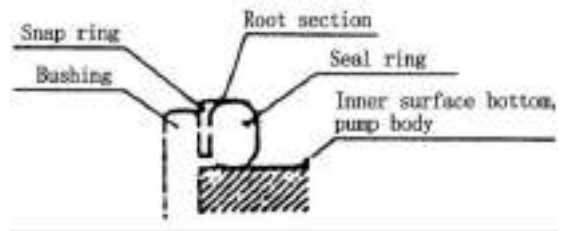

Fig.7-25 Seal
- (e) Install a new seal ring and a new ring on the groove of the rear cover. (Fig.7-25)